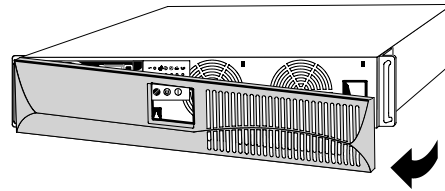

Figure 2. Removing the UPS Front Cover
2. Remove the UPS front cover (see Figure 2).